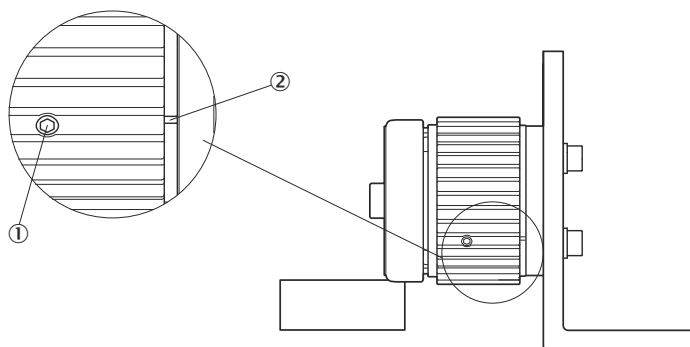

Figure 15: CCW - Counter clockwise force setting
- ▶ If necessary, loosen the set screw (see figure 15) to enable the locker to move.